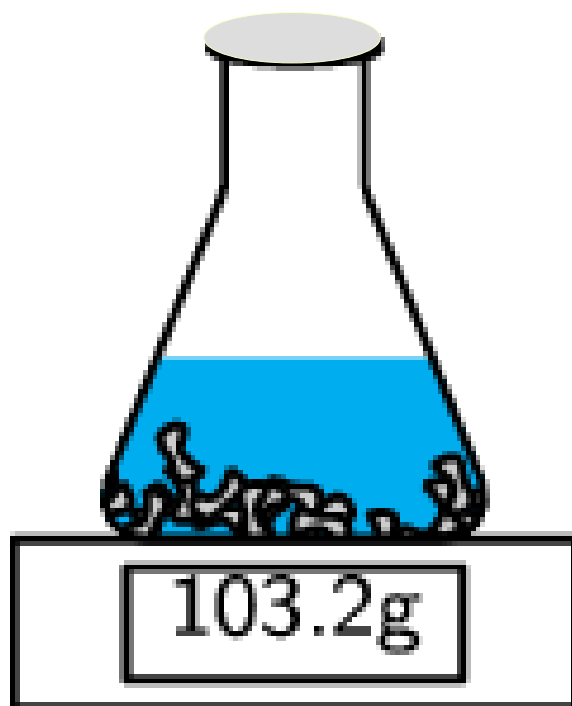

Figure 2.11: Mass Change Experiment
- Figure 2.11 - Mass Change Experiment - <http://everythingmaths.co.za/science/grade-12/07-rate-and-extent-of-reaction/07-rate-and-extent-of-reaction-03.cnxmlplus> - Accessed 15:19, 09/02/2015.